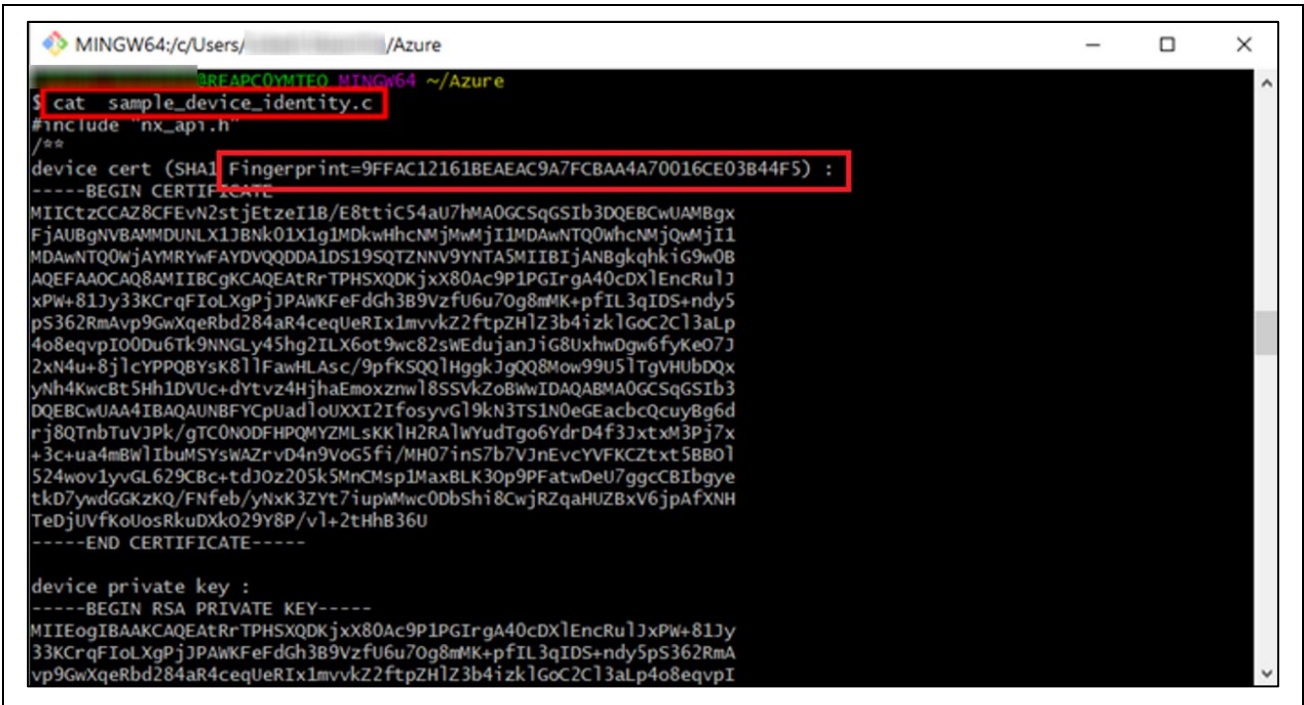

Figure 23. Check the Content of `sample_device_identity.c`
2. In this stage, you have to give Device ID, Authentication type, Primary thumbprint, and Secondary thumbprint, then click on Create. Use fingerprint generated in Figure 23 in section 3.5.Certificate Creation Process, for the primary and secondary thumbprints. Follow steps 1-5 in Figure 31, to create the device.